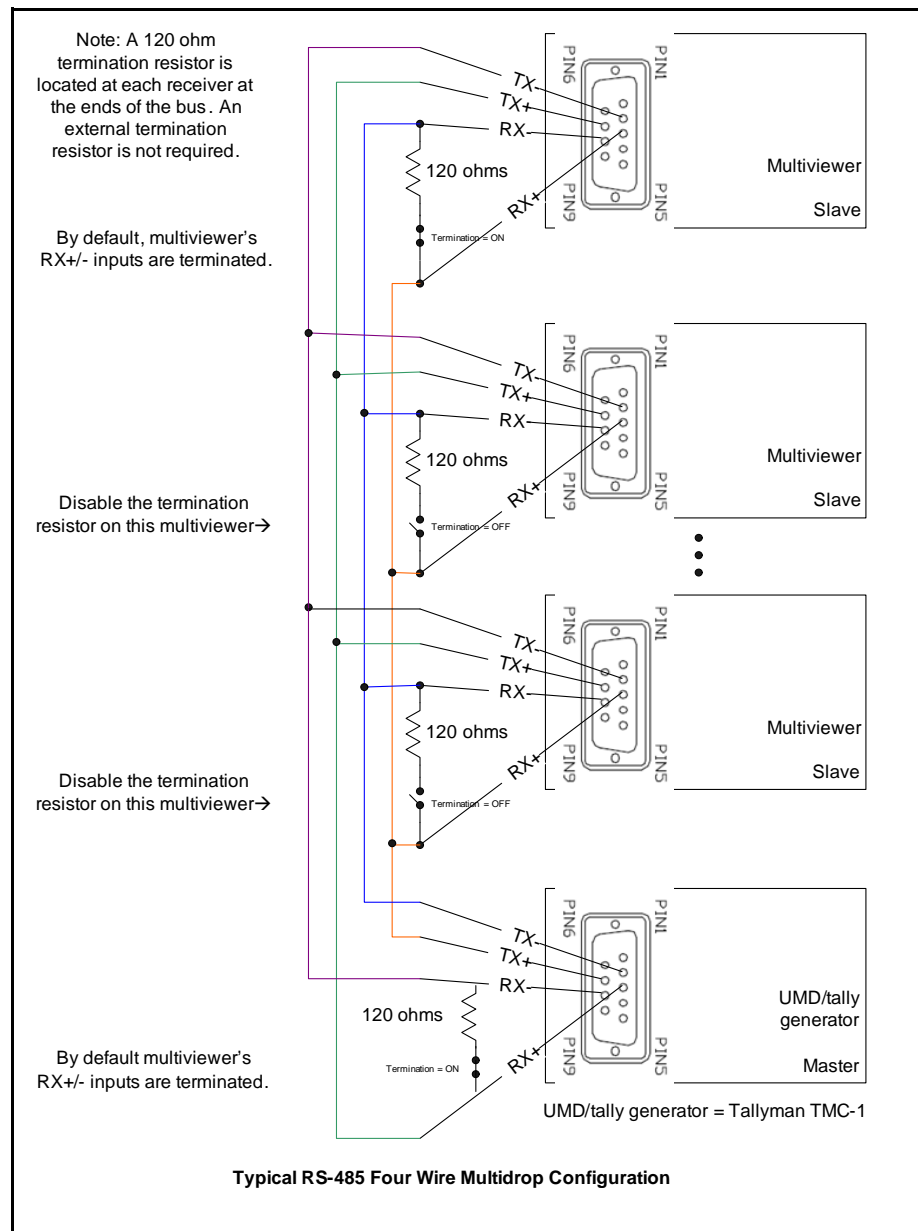
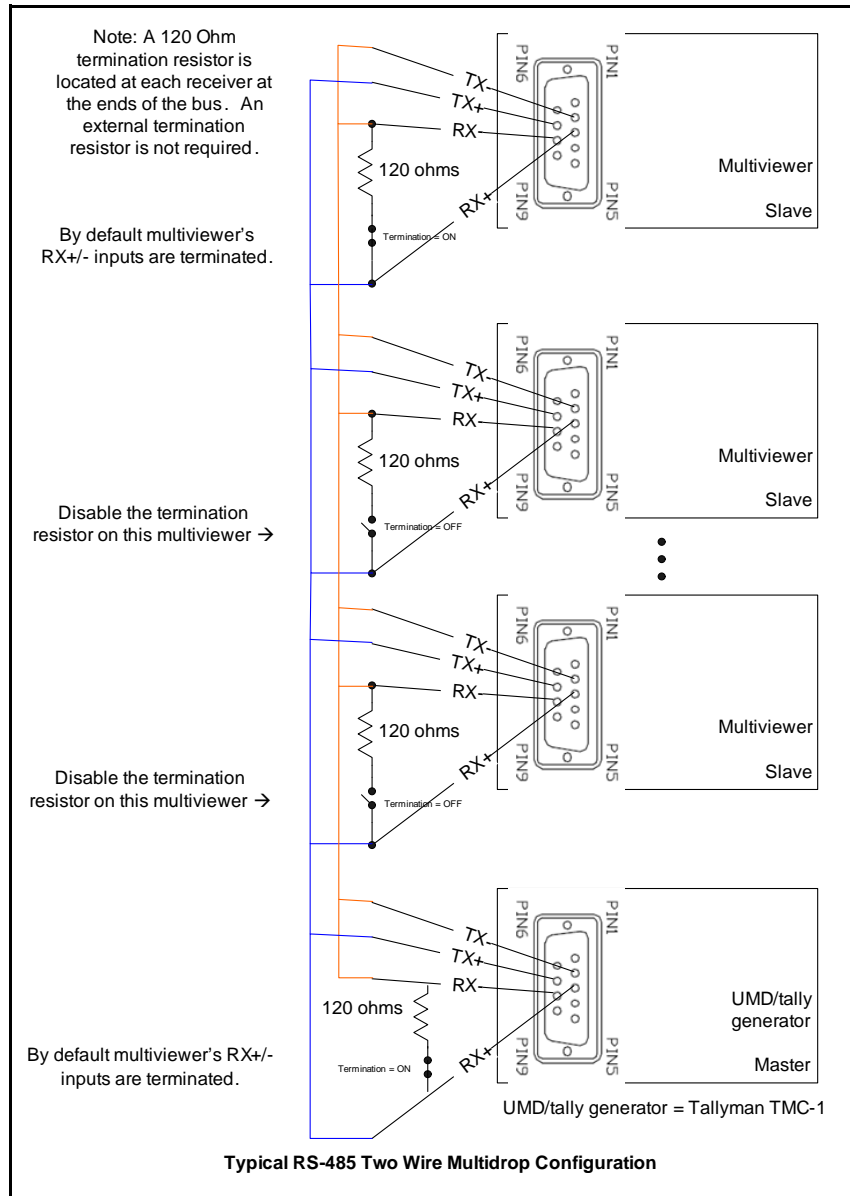

Figure C-3 Typical RS-485 Four Wire Multidrop Configuration
Figure C-4 Typical RS-485 Two Wire Multidrop Configuration
- RS-485 cable connection between a multiviewer (COM 1–2) and a UMD/tally device (see Figure C-3 on page 87 and Figure C-4 on page 88)
Figure C-3 illustrates a simplified system configuration with UMD/tally support.